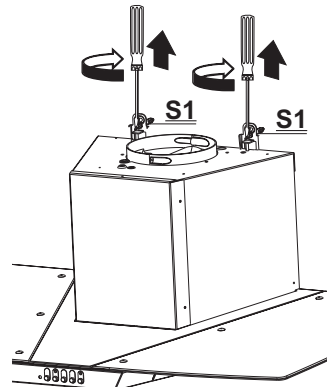

Fig. 8
Before starting to fix the canopy it will be necessary to adjust the support brackets S1 by turning the screws clockwise until the limit of the thread is reached as illustrated in Fig. 8.
To fit the lower chimney section (I) expand the chimney slightly to allow it to be fitted over the upper chimney (S) and the canopy (C) as illustrated in Fig. 8.